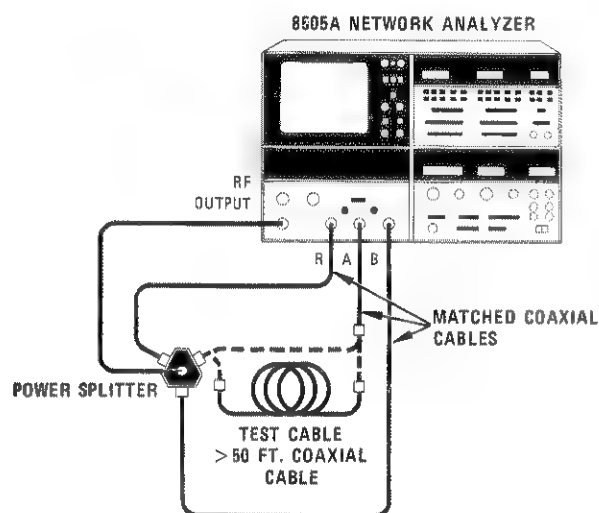

Figure A2-24. Test Setup to Measure Group Delay of Test Cable
- (1) Connect the "Test Cable" in A channel between the matched cable and the power splitter as shown in Figure A2-24.
- (2) Set 8505A controls as follows:
- b. Connect equipment as shown in Figure A2-24 with both matched cables and adapters connected to power splitter and "test cable" not connected in circuit.